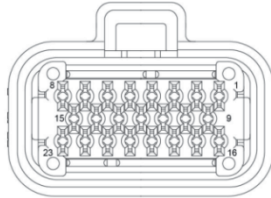

Figure 7 (X250, drive inverter)
- X250 on the drive inverter (Figure 7)